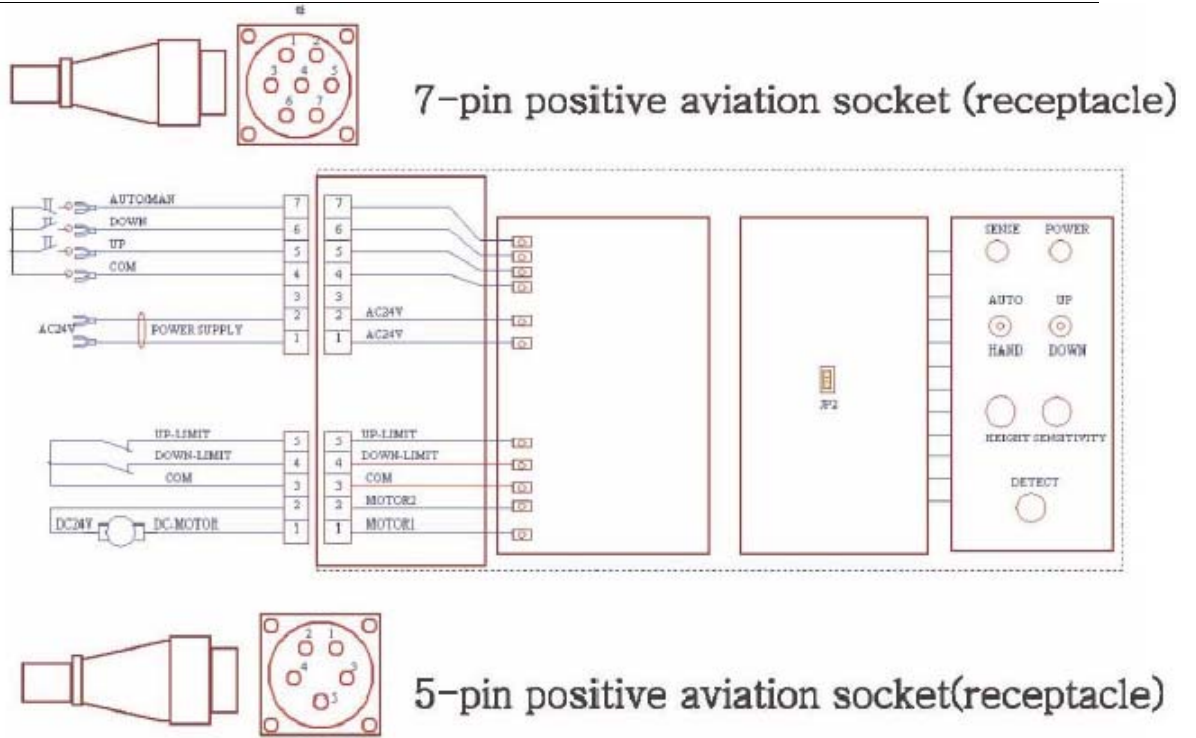

Figure 21 : Control PCB –Connection of aviation socket
- 1、 Figure 21 shows the connection of control PCB's aviation socket.